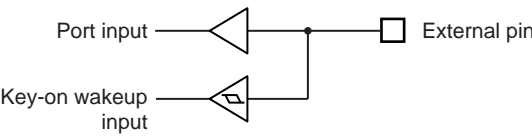

Figure 12-2 Key-on Wakeup Input and Port Input
- Note 3: The input circuit of Key-on Wakeup input and Port input is separated, so each input voltage threshold value is different. Therefore, a value comes from port input before STOP mode start may be different from a value which is detected by Key-on Wakeup input (Figure 12-2).